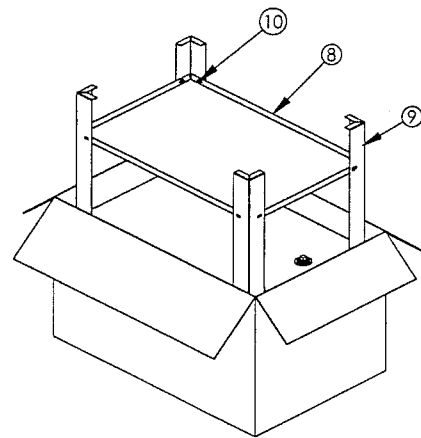

FIGURE 2
5. Remove the packing from the shelves, and assemble the lower shelf inside the four (4) legs using the remainder of the bolts from the bolt package (See figure 2).